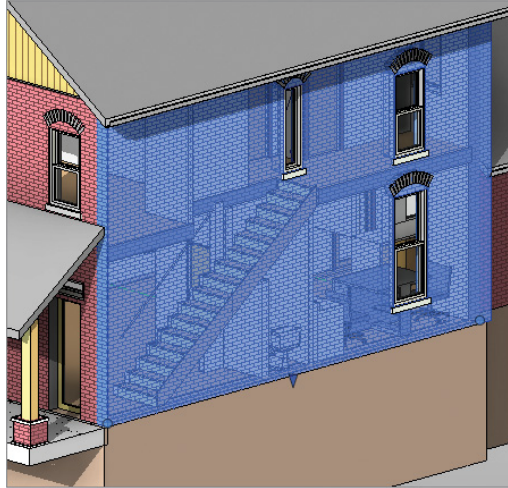

FIGURE 9.11 Selected wall
1. Select the large brick wall (Figure 9.11). Right-click and choose **Override Graphics In View > By Element**.